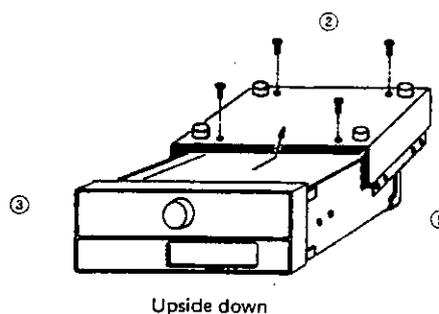

Figure 5.3 Removal of the Lower Cover
- (3) Remove four screws according to Fig. 5.3.